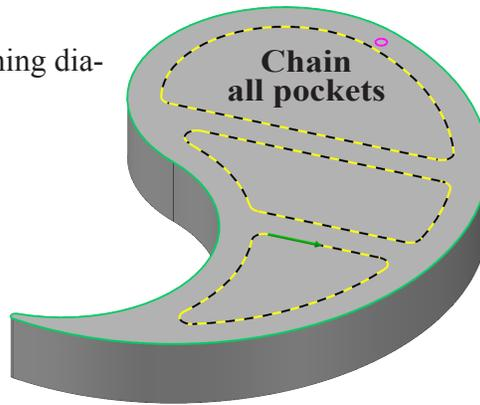

Fig. 41
Step 2. Click any geometry of each pocket, Fig. 41.